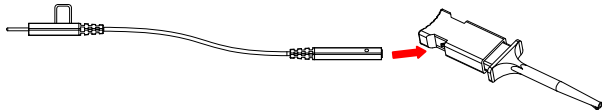

Figure 2
- ◆ Method two: on the basis of method one, you can connect a grabber to each lead and connect it to the device under test as shown in Figure 2.